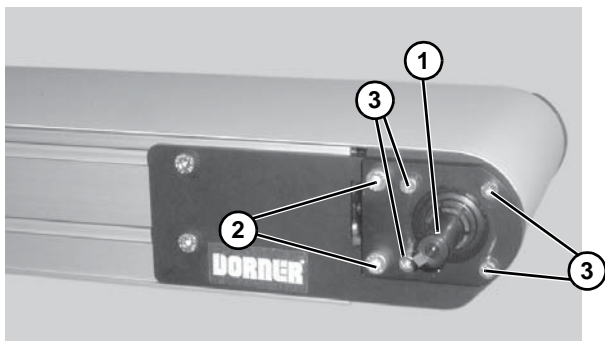

Figure 7
3. Locate drive output shaft (**Figure 7, item 1**). Remove two (2) M8 screws (**Figure 7, item 2**) and four (4) M6 screws (**Figure 7, item 3**) and discard.